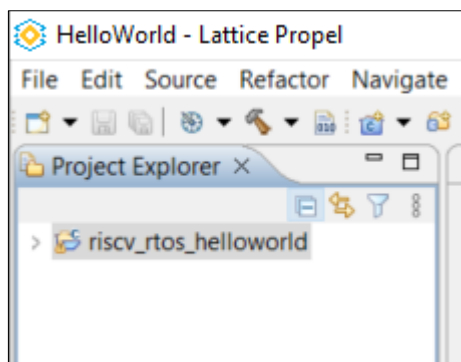

Figure 7.20. Hello World C Project Created
- This loads the Hello World project in the workspace as shown in Figure 7.20.